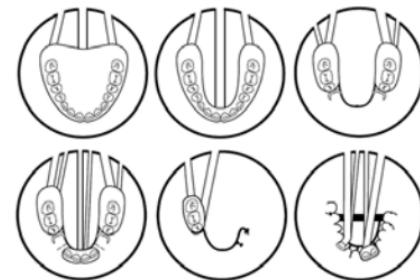

Figure 1. Spruing Techniques
- Create or place sprue holes in the hydrocolloid or silicone mold as shown in Figure 1.